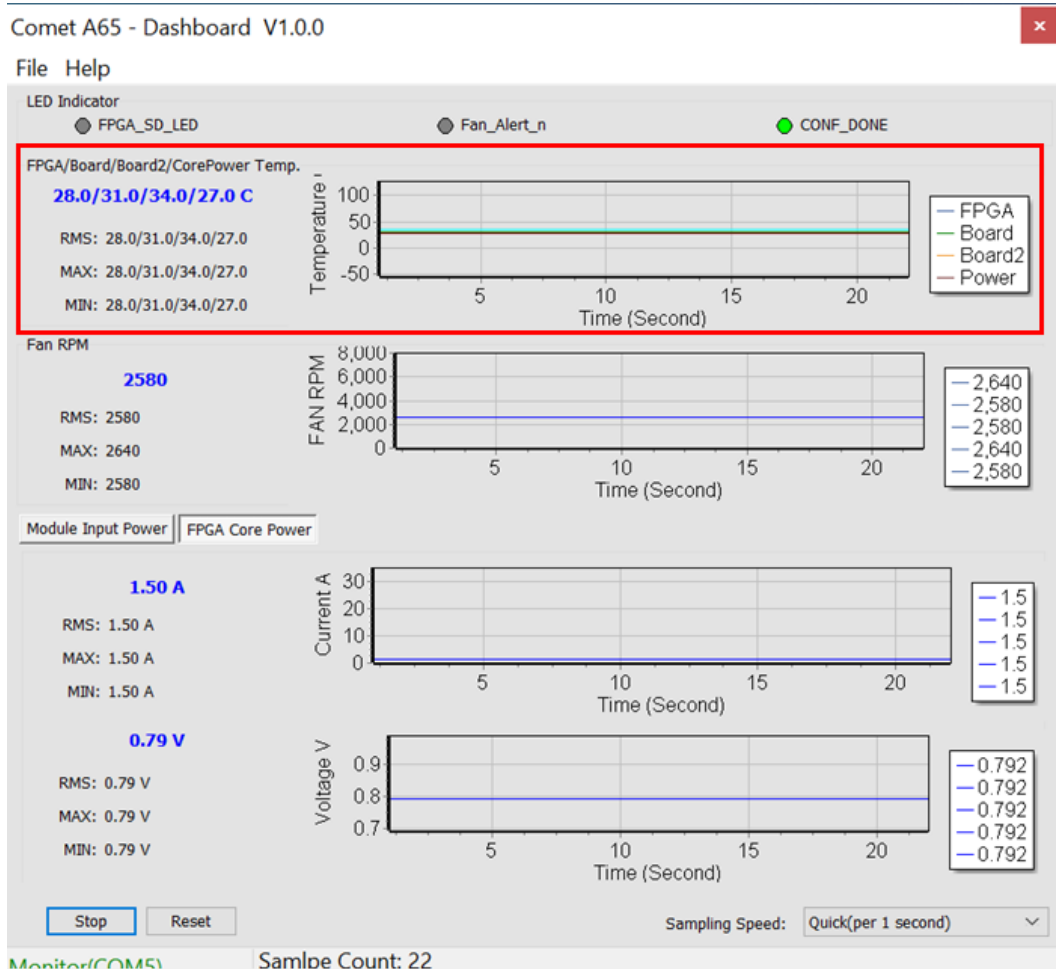
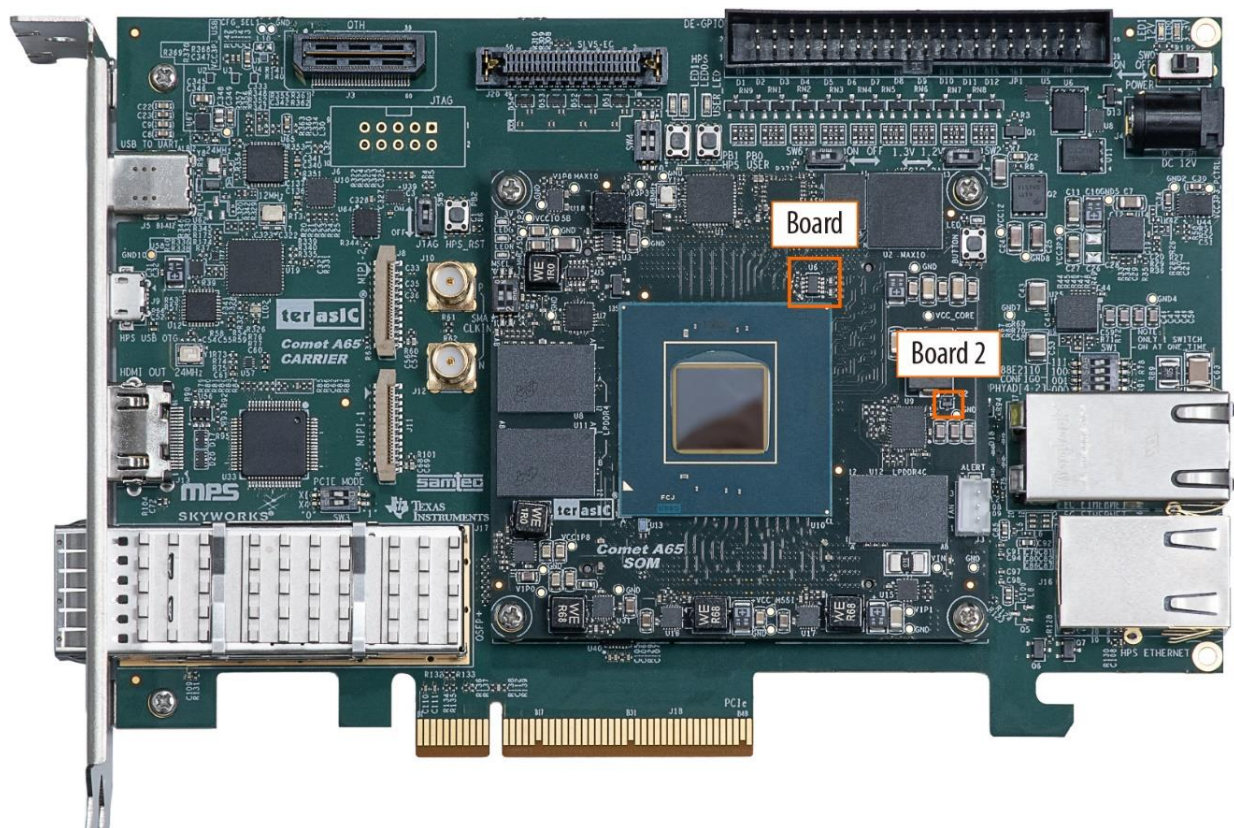

Figure 3-9 Temperature section
Figure 3-10 Location of the board's ambient temperature
- **FPGA/Board/Board2/CorePower Temp.:** The Dashboard GUI will real-time show the fan speed, Comet A65 SOM Evaluation Kit ambient and FPGA temperature. Users can know the board temperature in time. The information will be refreshed per 1 second, and displays through diagram and number, as shown in **Figure 3-9**. **Figure 3-10** shows the location of the two temperature sensors of **Board** and **Board2** on the GUI.